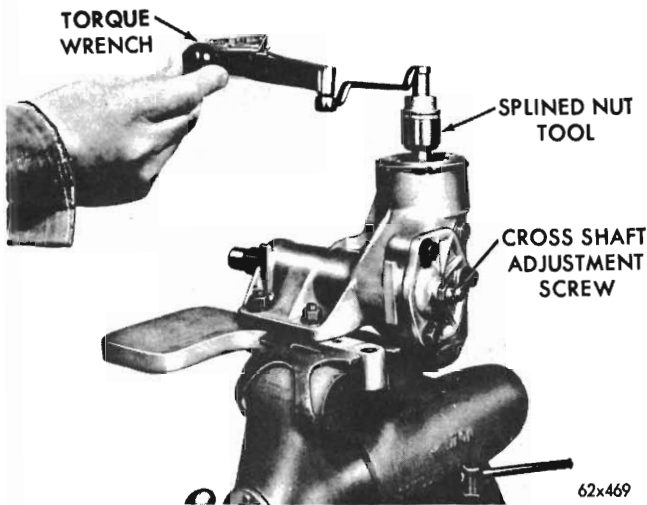

Fig. 16 - Testing ball nut rack and cross-shaft sector mesh (typical)
(3) Turn the wormshaft about one-quarter turn away from the centre or high spot position. Using Tool E19C25 and lbs.-in. torque wrench (See Fig. 16), rotate the wormshaft through the centre or high spot position, observing the rotating torque required to turn the gear through the high spot. This reading should be between  $8\frac{1}{4}$  and  $11\frac{1}{4}$  lbs.-in. This represents the total of the worm bearing pre-load and the sector gear mesh load.